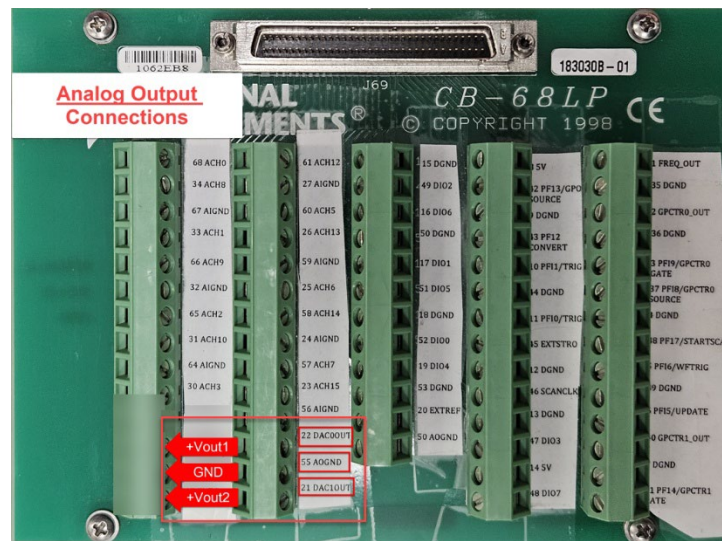

Figure 12 - Analog Output Connections
14. Select the number of output channels. Refer to the connections shown in Figure 12 to determine the number of output channels you will use.
- Note: The arrows in Figure 12 are not pointing to the ports to the left but are instead pointing to the labels referencing the use of the ports they are coming out from. For this lab, only one output channel should be used.